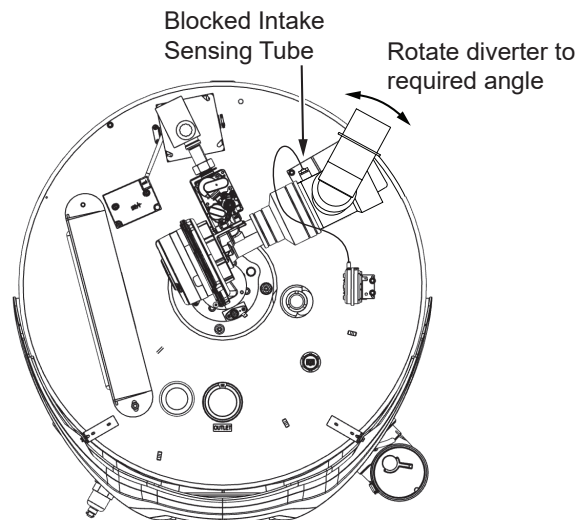

Figure 30. Diverter Assembly Rotation
2. Disconnect the blocked intake-air switch sensing tube. See **Figure 30** for the location.